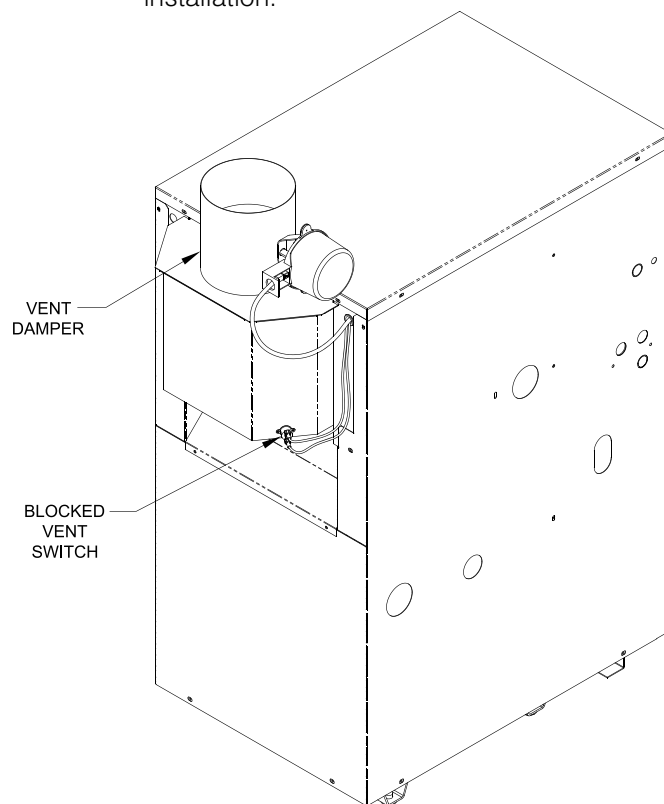

Figure 6-1: Vent Damper Installation
- B. Mount the vent damper assembly onto diverter. See damper manufacturer instructions for more information. Do not modify either diverter or vent damper. See Figure 6-1.